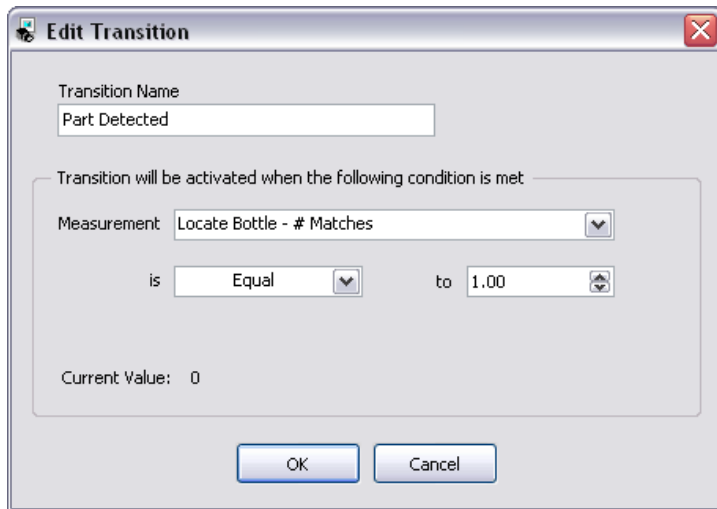

Figure 6-10. Configuring the Part Detected Transition
3. In the Edit Transition dialog box, modify the controls to transition when **Locate Bottle - # Matches** is **Equal** to 1, as shown in Figure 6-10.